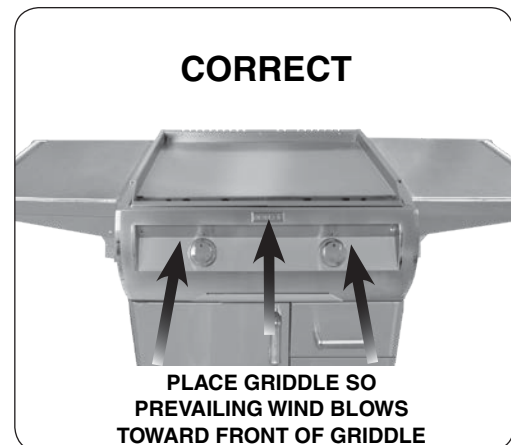
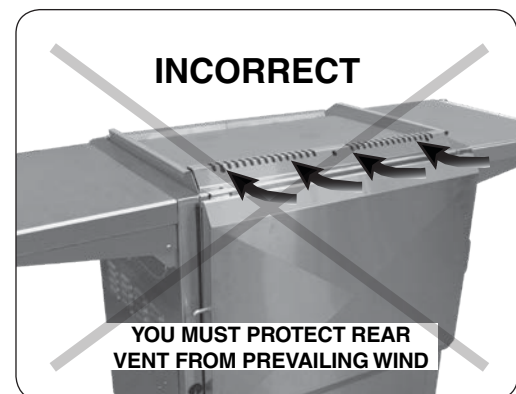

Fig. 10-2 Airflow direction - CORRECT
Fig. 10-3 Airflow direction - INCORRECT
**CAUTION:** Wind blowing into or across the rear vent (Fig. 10-3) can cause poor performance and/or dangerous overheating. Orient the griddle so that the prevailing wind blows toward the front of the griddle (Fig. 10-2).